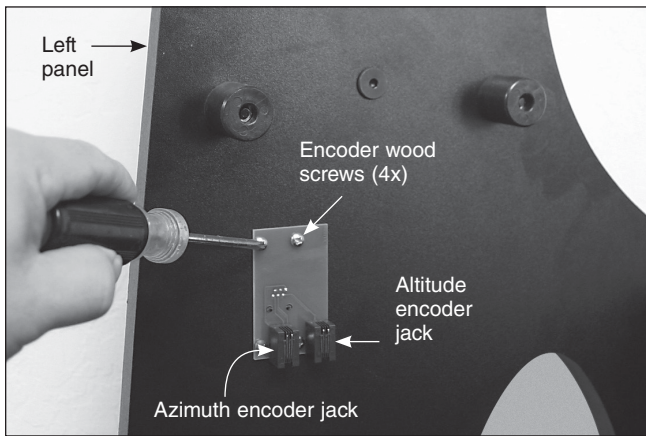

Figure 10. Attach the encoder connector board to the left panel with four of the encoder board mounting screws.
board and into the pre-drilled pilot holes in the left panel until tight (**Figure 10**).
19. Connect one end of the azimuth encoder cable (the shorter of the two flat cables in the IntelliScope kit) to the encoder jack in the top baseplate of the Dobsonian base. Connect the other end to the encoder connector board installed on the base's left side panel. The azimuth encoder cable should plug into the jack on the left side of the encoder connector board (**Figure 10**).
20. Connect one end of the altitude encoder cable (the longer of the two flat cables in the IntelliScope kit) to the modular jack on the altitude encoder assembly. Connect the other end of the altitude encoder cable to the jack on the right side of the encoder connector board (**Figure 10**).